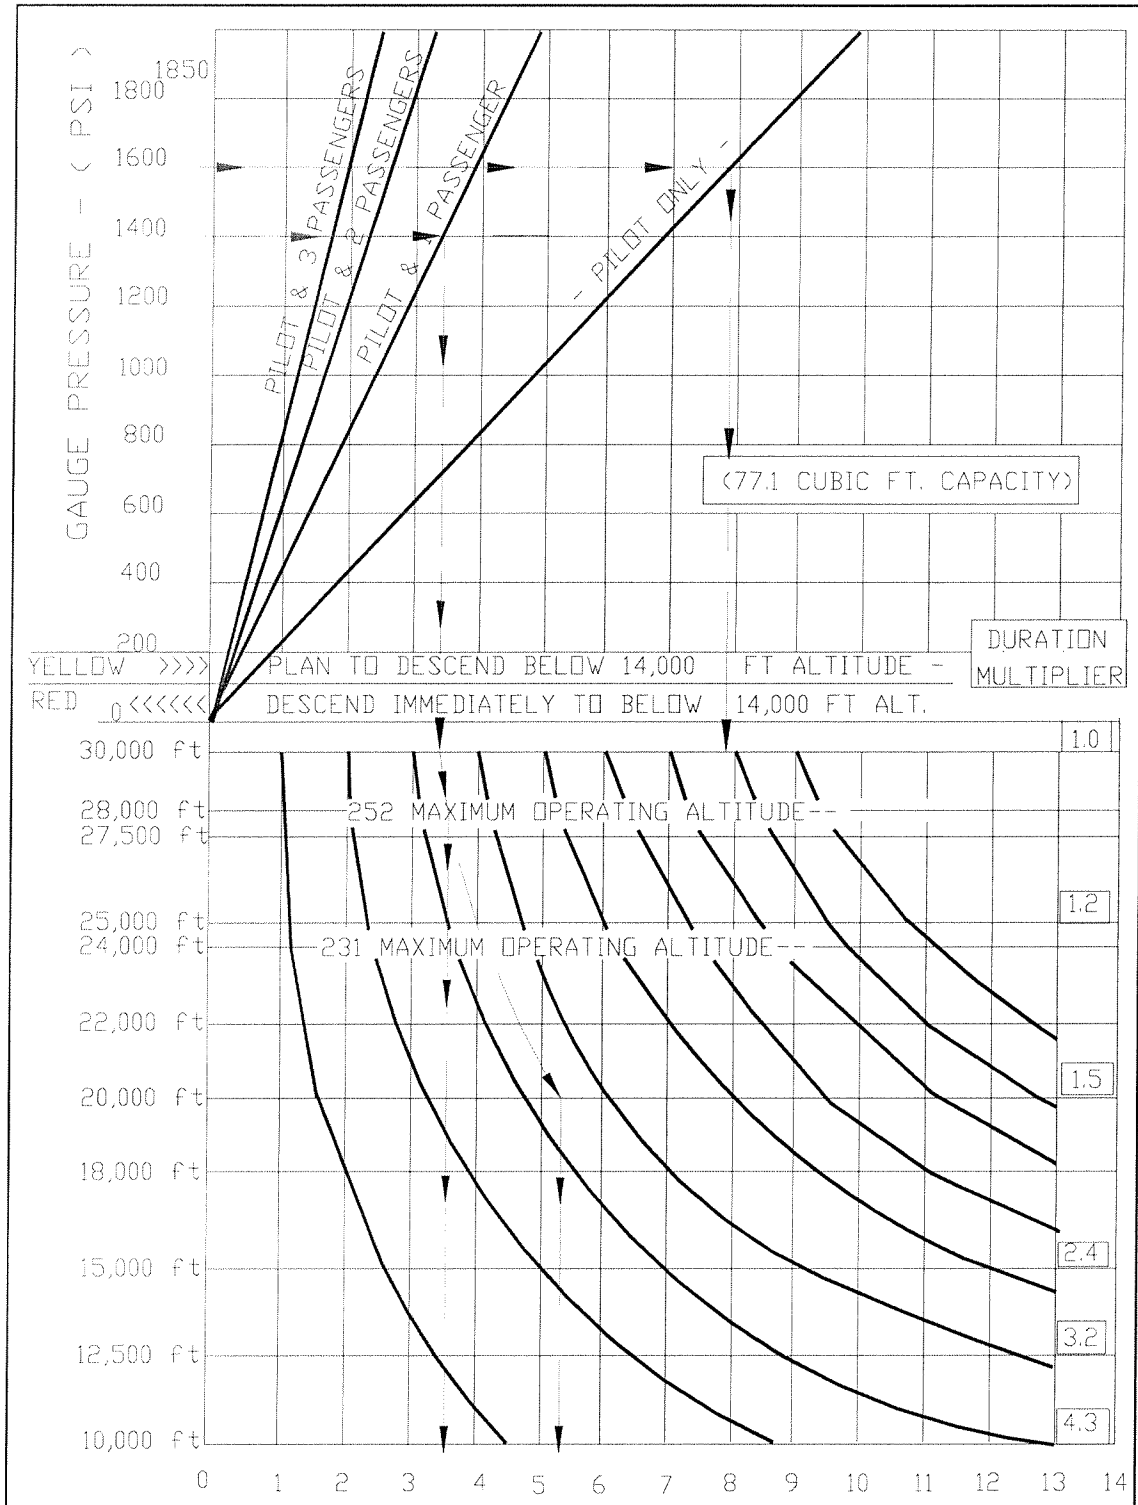
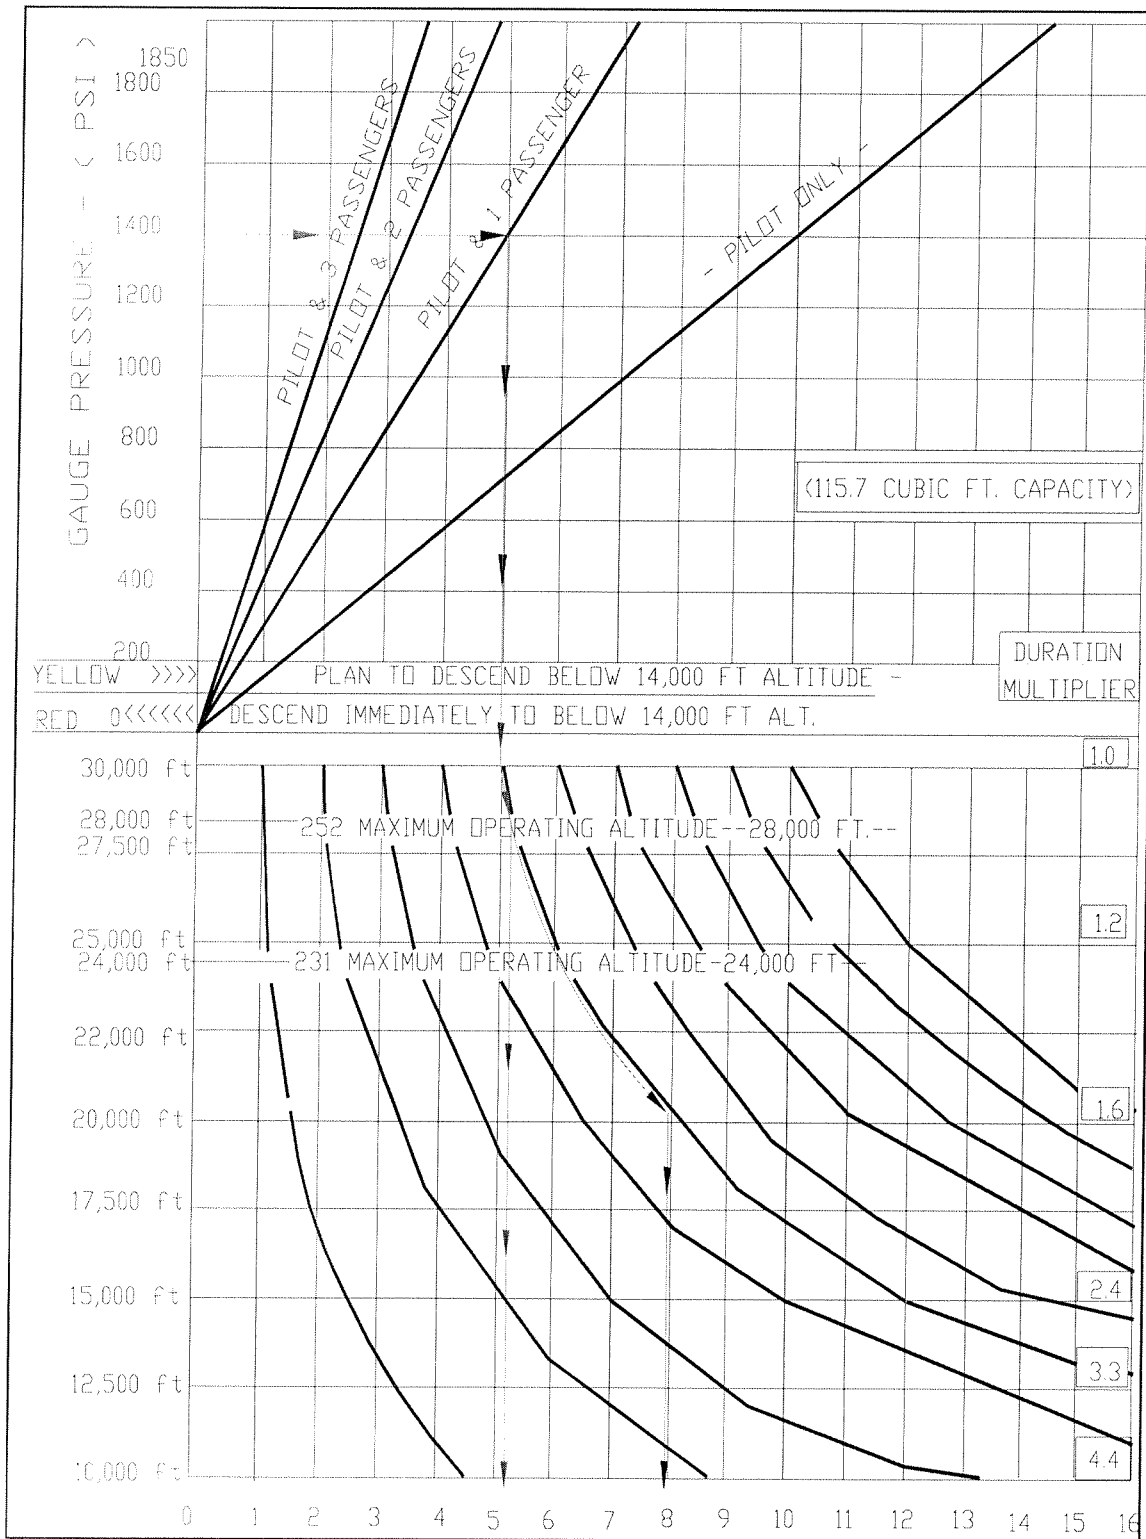

FIGURE 2 - OXYGEN DURATION CHART
FIGURE 3 - OXYGEN DURATION CHART
A pilot's oxygen panel on the side wall near the pilot's arm rest contains a cylinder pressure gage (effectively a quantity gage - see Fig. 2 or 3) and a control knob which is mechanically connected to the shutoff valve at the cylinder. The supply of oxygen can thus be shut off from the cockpit when not required. When the control is in the "ON" position sufficient oxygen flow is available at the maximum airplane operating altitude (see Section II Limitations) while at lower altitudes the reducing valve automatically economizes the flow to conserve oxygen for longer duration or for future availability, without requiring any action by the pilot. (See Fig. 2 or Fig. 3).
The oxygen duration chart (Fig. 2 or 3) should be used in determining the usable duration (in hours) of the oxygen supply in the airplane for the chosen cruising altitude. The following procedure outlines the method of finding the duration from the chart:
4. As an example of the above procedure, 1400 PSI of pressure will safely sustain the pilot and one passenger for 3 hours and 30 minutes (Fig. 2) or 5 hours and 10 minutes (Fig. 3) at 28,000 ft.; however, cruising at 20,000 ft. would permit an oxygen duration of 5 hours and 15 minutes (Fig. 2) or 7 hours and 55 minutes (Fig. 3).
Light crew loads and relatively low altitudes will permit oxygen durations off the chart. Such durations can be calculated by determining the duration at 30,000 feet (by steps 1 and 2 above) and multiplying by the "duration multiplier" shown on the right of the appropriate cruising altitude. Example: (Fig. 2 only) pilot only at 1600 PSI has 7.9 hours duration at 30,000 ft., times 1.5 duration multiplier for 20,000 ft., gives 11.85 hours (11 hours and 50 minutes) duration at 20,000 ft. Oxygen durations off the chart obviously exceed the airplanes duration. However, judicious choices of altitude for the number of persons on board can permit flight planning for several fuel stops, without need for recharging the oxygen system at each stop.
Prior to flight, check to be sure that there is an adequate oxygen supply for the trip, by noting the oxygen pressure gage reading, and referring to the oxygen duration chart (Fig. 2 or 3). Also check that face masks and hoses are accessible and in good condition.
Refer to duration chart (Fig. 2 or 3) for safe operational quantities.